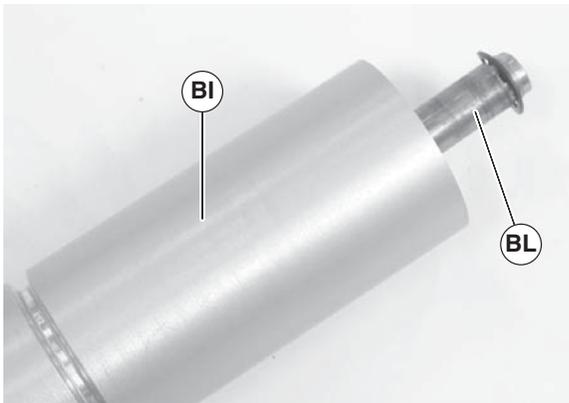

Figure 49
- Slide the shaft assembly (Figure 49, item BL) out of the pulley (BI).